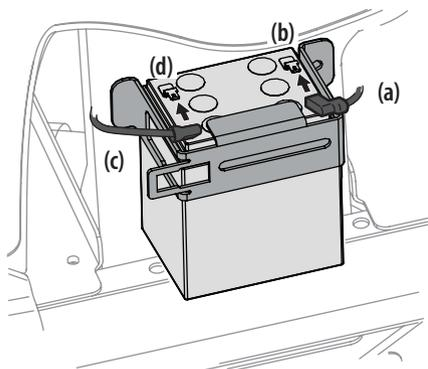

Figure 16
1. Plug the red cable (a) into the positive battery terminal (b). See Figure 16.
2. Plug the black cable (c) into the negative battery terminal (d). See Figure 16.